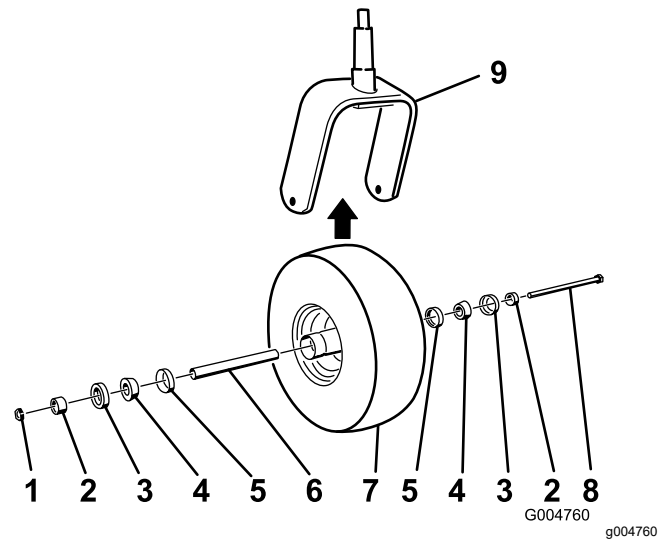

Figure 41
5. Assemble the caster wheel by pushing the cone bearings and seals, packed with grease, into the wheel hub, positioned as shown in Figure 41.
2. Remove the locknut from the bolt (Figure 41).